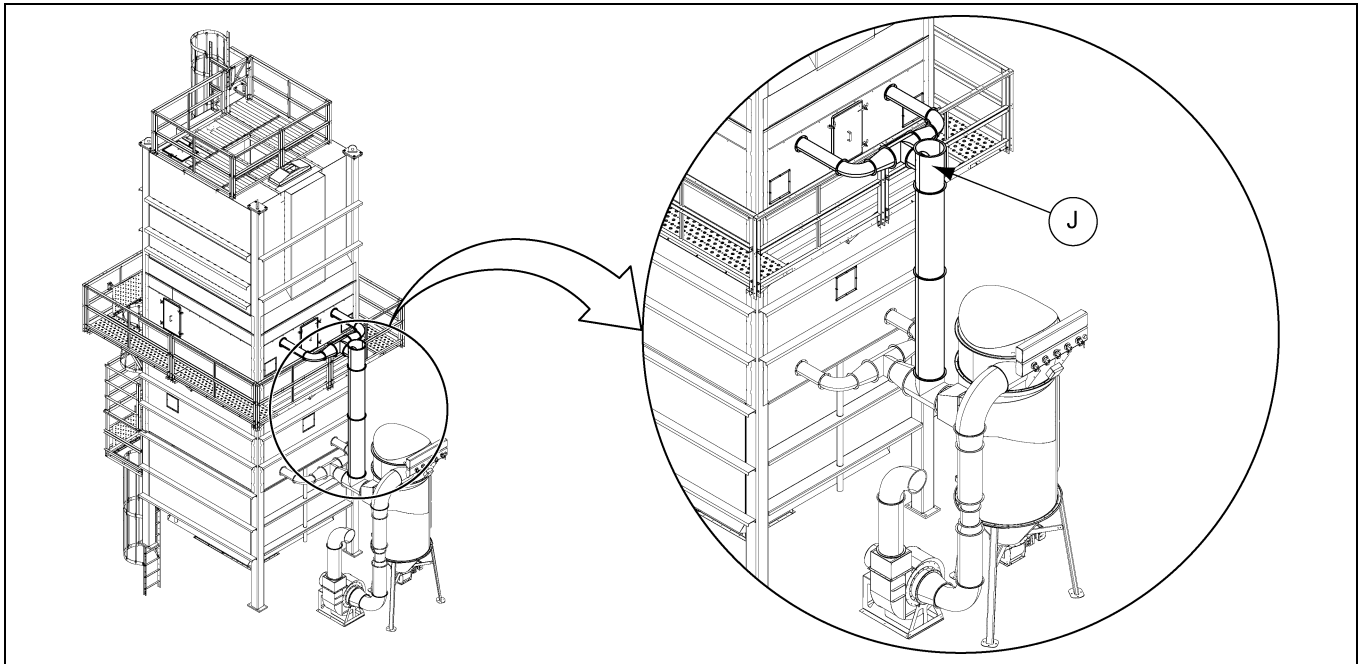

Figure 2N
3. Assemble the weigh hopper duct section (J). (See Figure 2N.)